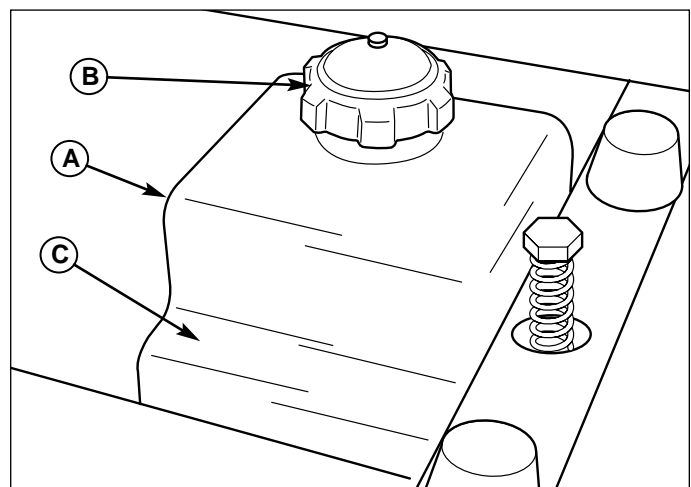

Figure 10. Checking Hydraulic Oil Level
1. Visually check that the hydraulic oil level is filled to the recess area (C, Figure 10) of the hydraulic oil reservoir (A, Figure 10).
3. If necessary, remove the reservoir cap (B, Figure 10) and add either Mobil 1™, 15W-50 synthetic oil or Castrol Syntec™ 5W-50 oil. **DO NOT** use conventional oils. Make sure area around the filler neck is free of dust, dirt, or other debris.